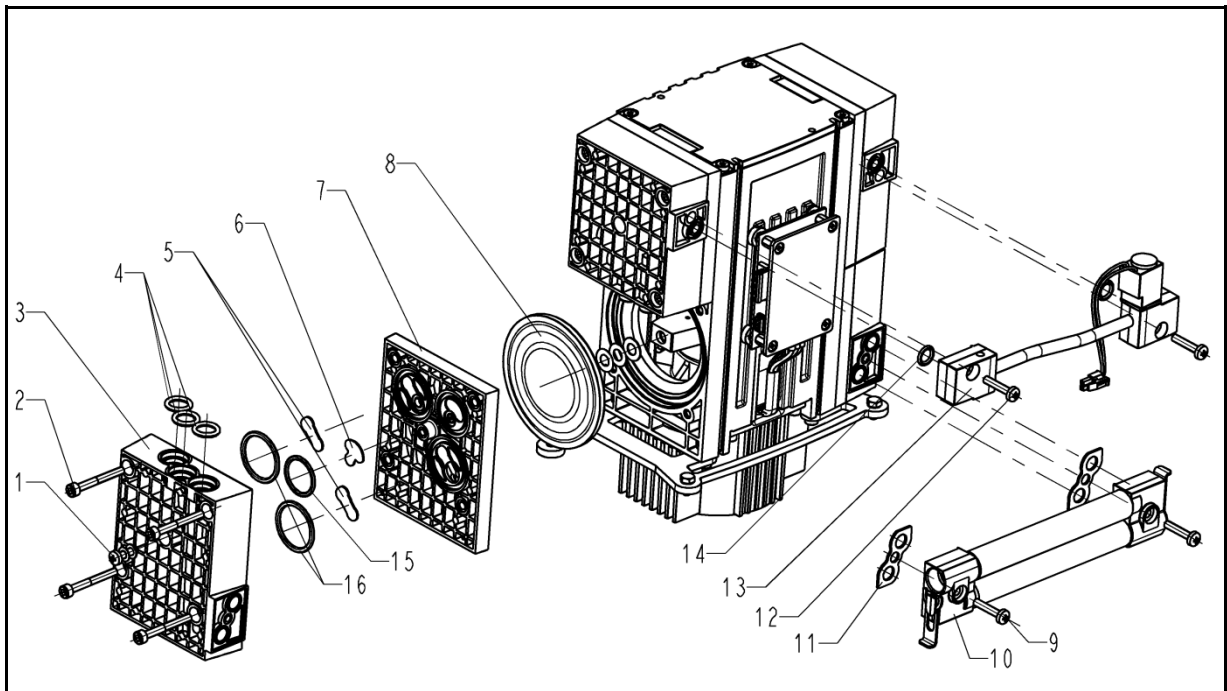

Fig. 19: Exploded drawing of SCC 950 pump
7. Undo the 16 attachments screws (Fig. 19/2) on the heads (**1** to **4**) and remove the heads (**1** and **2** as well as **3** and **4**).
3. Place heads 1 and 2 and heads 3 and 4 onto the compressor housing; alternately tighten attachment screws (Fig. 19/2) to hand-tightness (torque: 3.5 Nm)
Diaphragm and valve plates have been replaced.	<ul style="list-style-type: none"> ➔ Make sure that the diaphragms have the correct shim rings. ➔ If necessary, carefully tighten the attachment screws (Fig. 19/2, p. 41) of the pump head alternately.